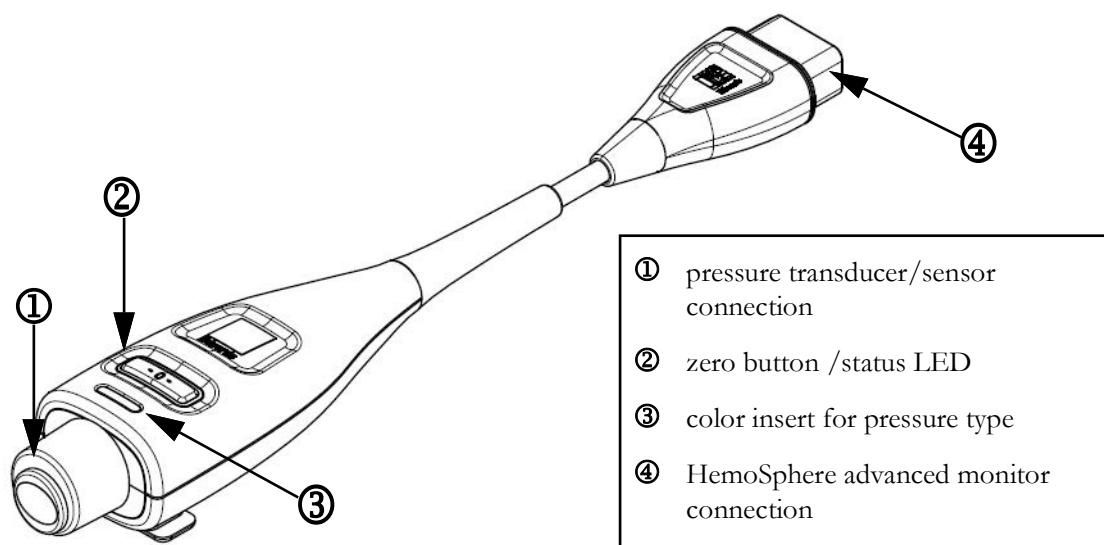

Figure 10-1 HemoSphere pressure cable
The HemoSphere pressure cable is a reusable device that connects with the HemoSphere monitor on one end ④ and any approved single Edwards disposable pressure transducer (DPT) or sensor on the other end ①. See figure 10-1 on page 156. The HemoSphere pressure cable acquires and processes a single pressure signal from a compatible Edwards DPT, such as the TruWave DPT, or a FloTrac sensor. A FloTrac or Acumen IQ sensor connects to an existing arterial catheter to provide minimally invasive hemodynamic parameters. A TruWave transducer can connect to any compatible pressure monitoring catheter to provide location based intravascular pressure. Refer to the directions for use provided with each catheter for specific instructions on catheter placement and use, and for relevant warnings, cautions and notes. The HemoSphere pressure cable can be monitored through two technology monitoring modes based on the paired sensor/transducer: **FloTrac** or **Acumen IQ** sensor monitoring mode or **Swan-Ganz** catheter monitoring mode. The monitoring mode appears on the top of the navigation bar (see figure 5-2 on page 77). The appearance and connection points for the HemoSphere pressure cable are shown in figure 10-1.
Pressure Type Color Insert. If desired, the appropriate color insert can be used on the pressure cable to indicate the monitored pressure type. See ③ in figure 10-1 below. The colors are as follows:
- Red for arterial pressure (AP)
- Green for cardiac output (CO)
- 7 Use a straight in or out motion to connect the green connector of the primed FloTrac sensor. The pressure cable LED that surrounds the zero button (see ② in figure 10-1) will flash green indicating that the pressure sensor is detected. A yellow light indicates a fault condition. If this occurs refer to the status bar for specific fault condition details.
Press the physical zero button  directly on the pressure cable and hold for three seconds (see figure 10-1).